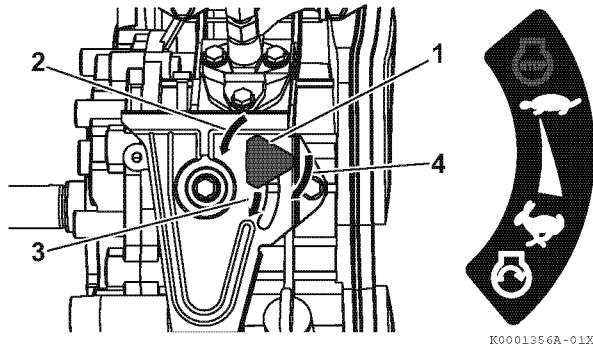

Figure 5
3. If your engine speed control is similar to **Figure 5**:
- 1- Turn the engine speed control knob (1, **Figure 5**) to the left (2, **Figure 5**).
- 2- Slide the engine speed control knob to the START position (3, **Figure 5**).
- 3- Turn the engine speed control knob to the right (4, **Figure 5**) to tighten it.